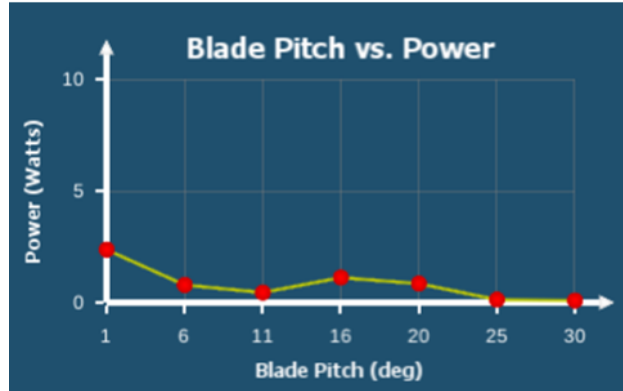

Figure 11: Blade pitch experiment graph
4. Repeat steps 2-3 until you have tested all the blade pitches listed. You should have a graph something like the one in Figure 11.